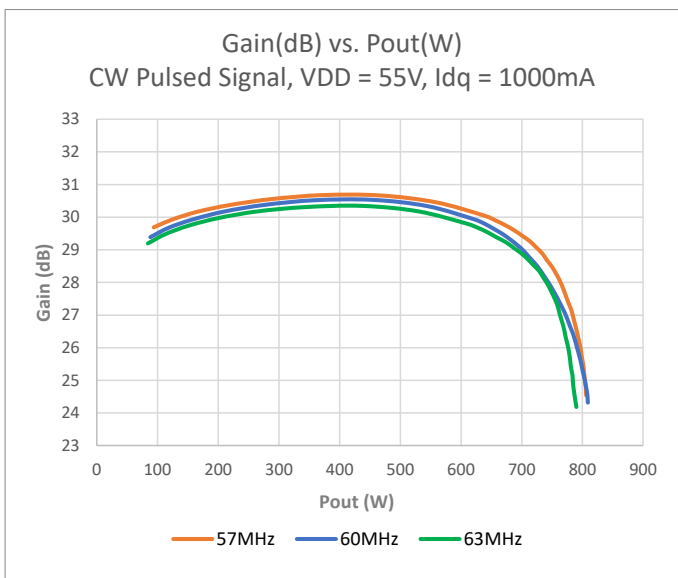

Figure 9 Gain(dB) over output power (W), CW signal, VDD = 55V, Idq = 1000mA
- Figure 9 Gain(dB) over output power (W), CW signal, VDD = 55V, Idq = 1000mA 9